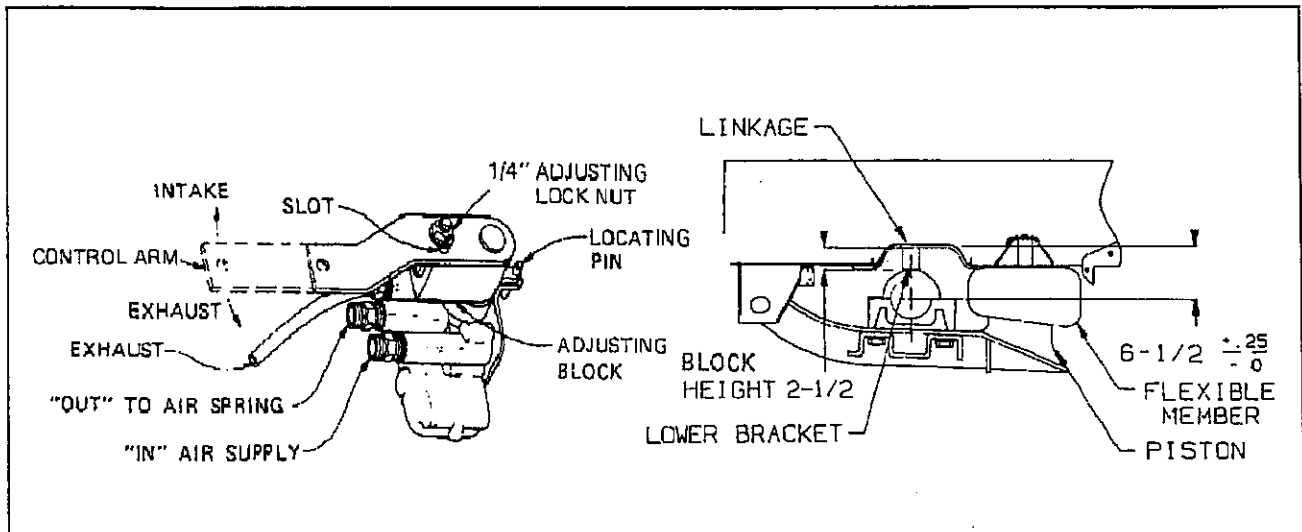

Figure 4-4 Air Ride Height Adjustment
### 4-7.1 Air Ride Height Adjustment. (See Figure 4-4 for parts identification).
e. Move the control arms to the "down" position (about 45°) for 10-15 seconds. Slowly return the control arms to the center position and insert locating pins into the adjusting block and bracket on the automatic height control valves (see Figure 4-4).